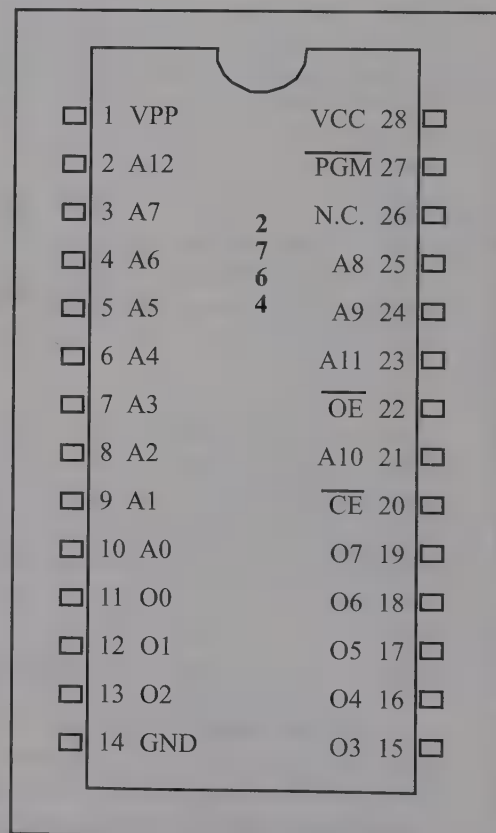

Figure 10-1. UV-EPROM Chip
EPROM was invented to allow changes in the contents of PROM after it is burned. In EPROM, one can program the memory chip and erase it thousands of times. This is especially useful during development of the prototype of a microprocessor-based project. The only problem with EPROM is that erasing its contents can take up to 20 minutes. All EPROM chips have a window that is used to shine ultraviolet (UV) radiation to erase the chip's contents. For this reason, EPROM is also referred to as UV-erasable EPROM or simply UV-EPROM. Figure 10-1 shows the pins for a 64K-bit UV-EPROM chip. Notice the A0–A12 address pins and O0–O7 (output) for D0–D7 data pins. The OE (out enable) is for the read signal.